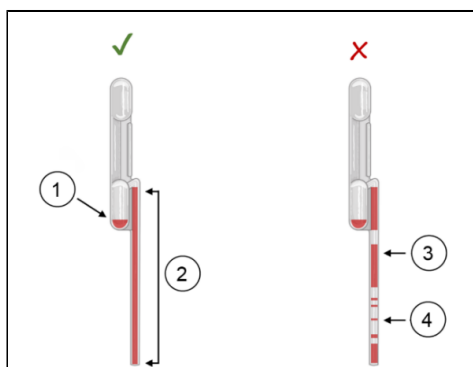

Figure 15. Xpert HCV Test 100 µL Transfer Pipette (Correct and Incorrect Use)
18. Check that the pipette does not contain air bubbles (Figure 15). If air bubbles are present, dispense the external control material back into the tube, keeping the pipette tip above the surface of the liquid while dispensing, and repeat this step with a new pipette.